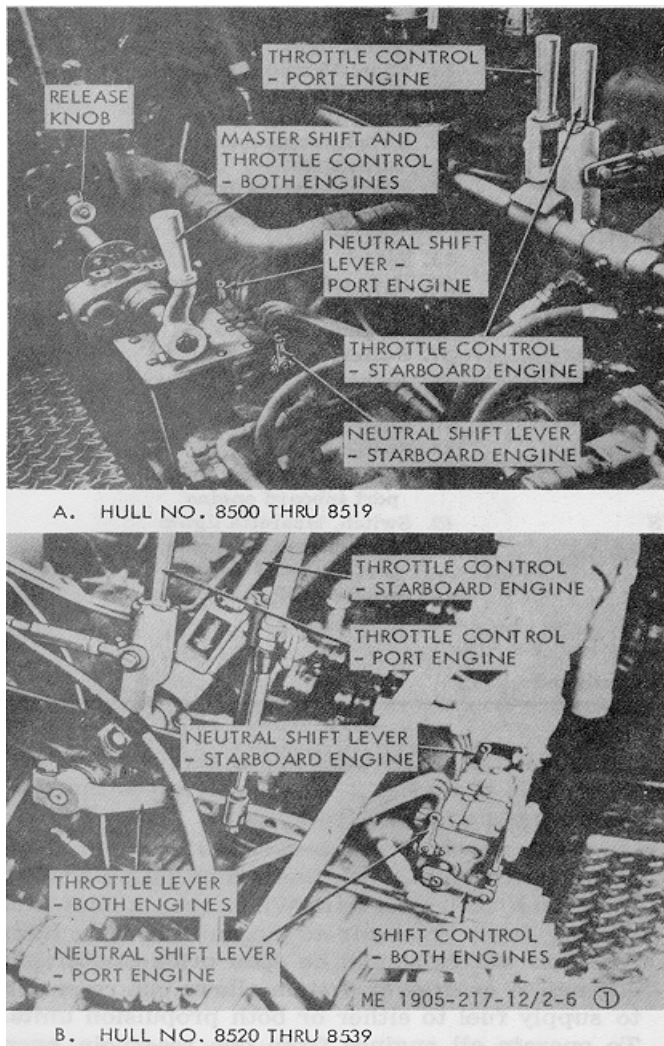

Figure 2-6.1. Engine control in engine room
(4) The shift control (fig. 2-6.1) is used to shift the transmission. To shift the transmission in the engine room the cable from the pilot house